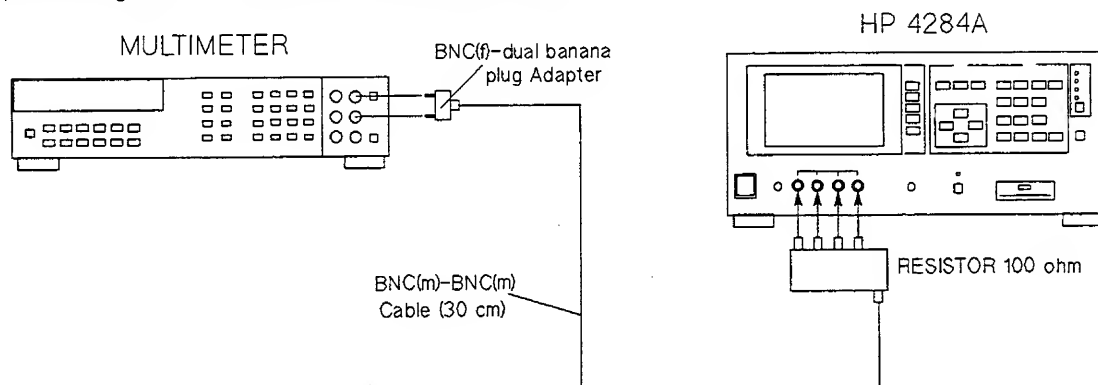

Figure 2-13. Test Signal Level/Level Monitor Adjustment Setup
4. Perform the test signal level/level monitor adjustment (EEPROM data updating) according to the program's instruction. Figure 2-13 shows the adjustment setup.